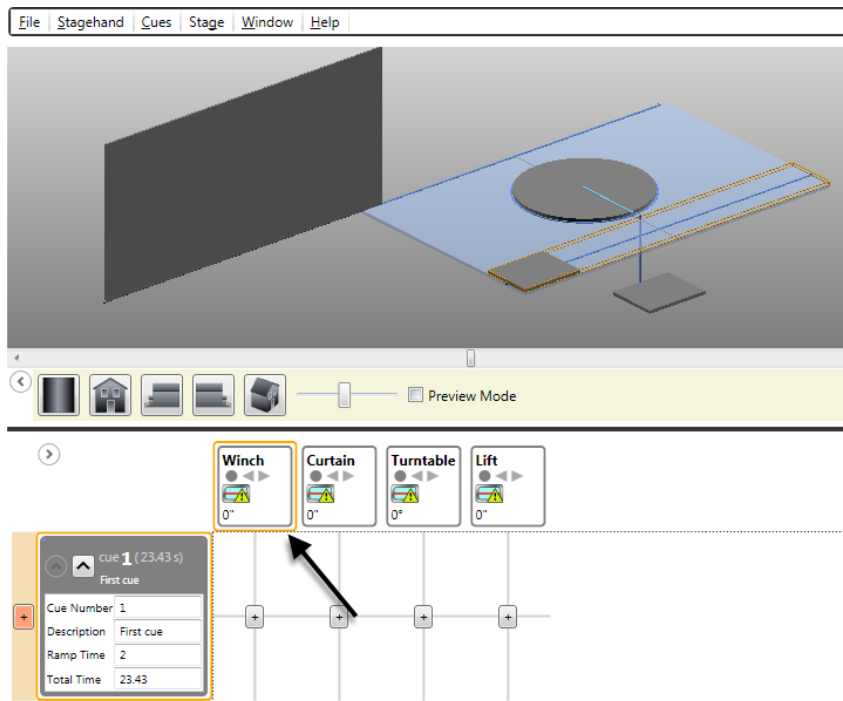

Figure 217
1. In the **Cue Grid**, select the motor to which you wish to add Spikes (Figure 217).